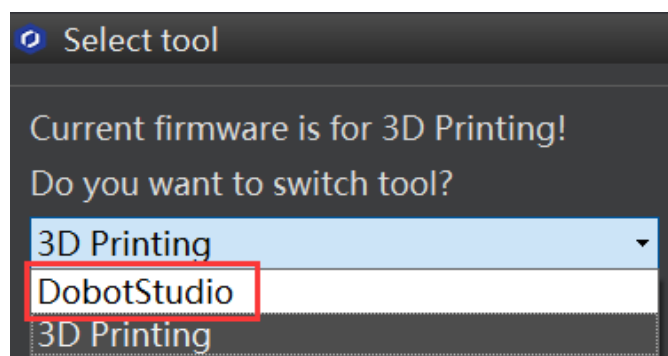

Figure 5.52 Select the DobotStudio to upgrade the Dobot firmware
1. Select **DobotStudio** to upgrade the Dobot firmware, as shown in Figure 5.52. The **Question** dialog box is displayed.